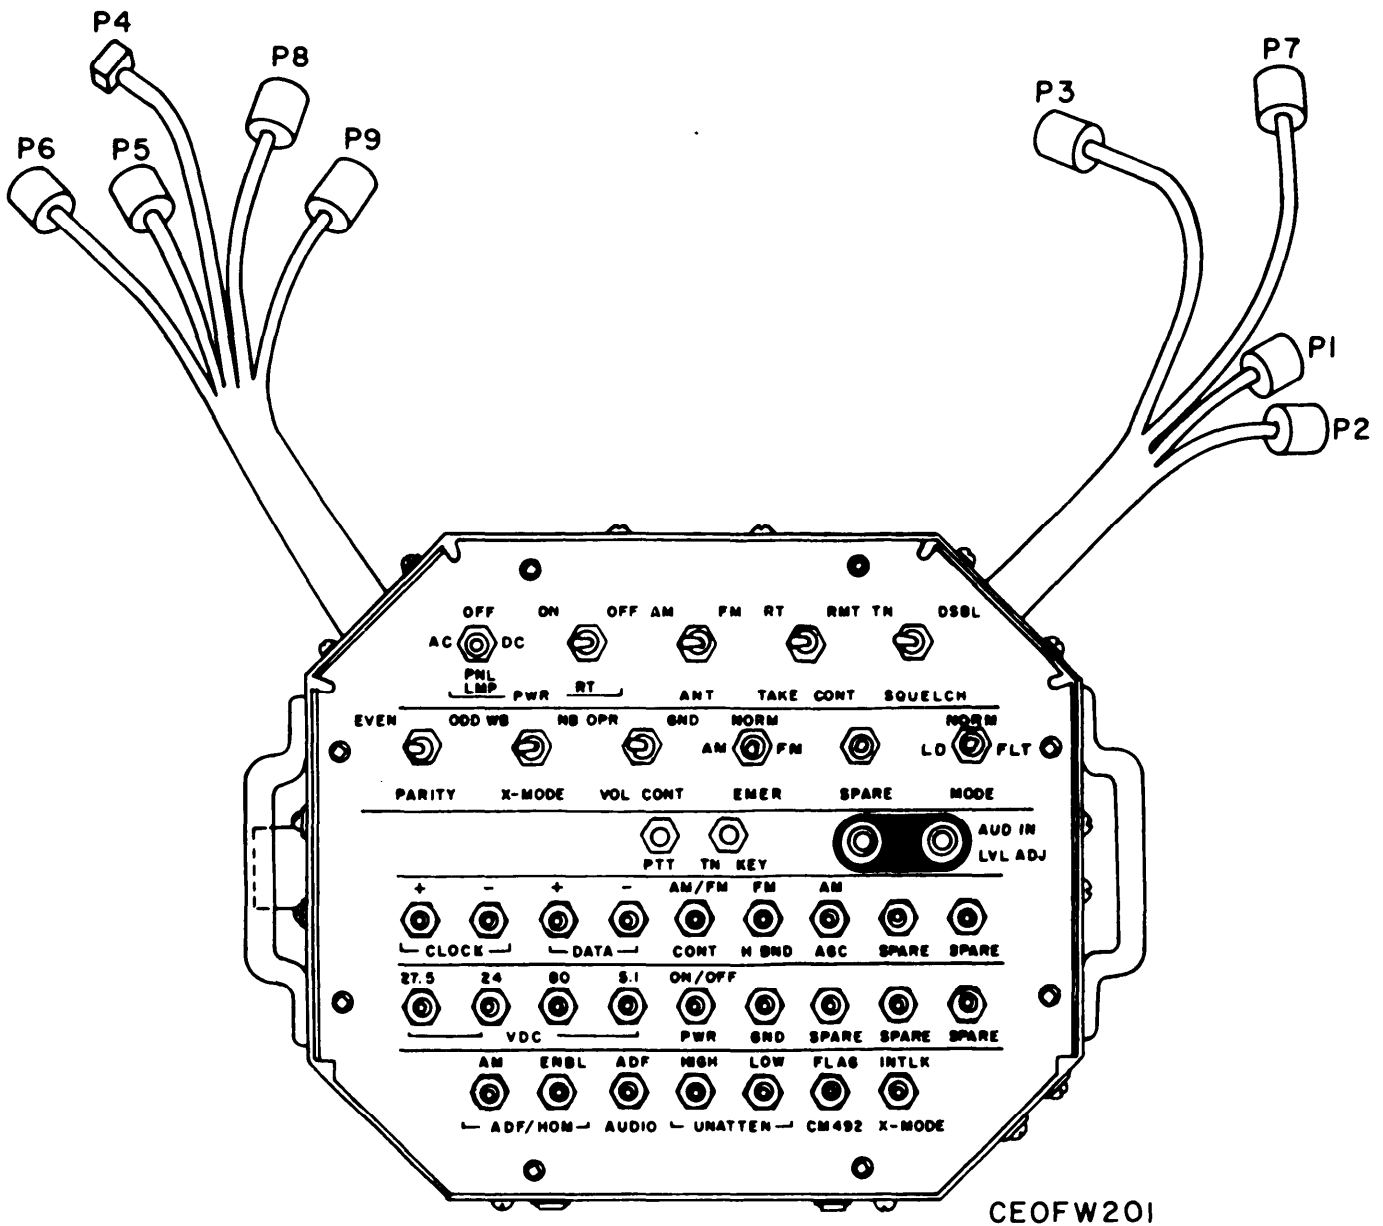

Figure 3-19. Front Panel, Interconnection Box J-4247/AR
b. Test Connections and Conditions. Tests are performed on the J-4247/AR (fig. 3-19) with no external connections. The multimeter is placed in the resistance measurement mode of operation for all tests. A detailed schematic of the Interconnecting Box J-4247/AR is provided as figure 5-10.